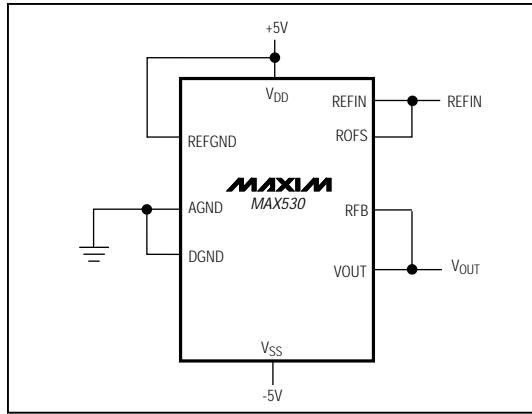

Figure 12. Four-Quadrant Multiplying Circuit
The MAX530 can be used as a four-quadrant multiplier by connecting ROFS to REFIN and RFB to VOUT and, using (1) an offset binary digital code, (2) bipolar power supplies, and (3) a bipolar analog input at REFIN within the range VSS + 2V to VDD - 2V, as shown in Figure 12.